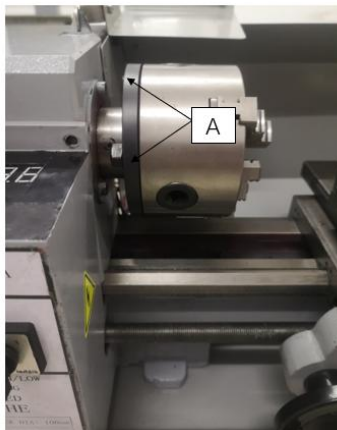

Fig.26
Using this universal chuck round triangular square hexagonal octagonal and twelve,cornered stock may be clamped. (Fig.26)
For the original 3, jaw chuck that was mounted on the lathe the factory has mounted the chuck in the best way to guarantee the holding accuracy with two "0" mark (A) Fig.26 showed on the chuck and chuck flange.